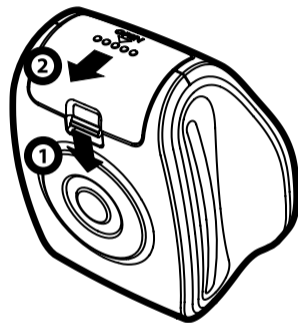

Fig.7. Order of actions to open the battery compartment
- Open the battery compartment as it is shown on Fig.7: press on the locktab in the direction to arrow 1 and move the battery compartment cover in direction to arrow 2;